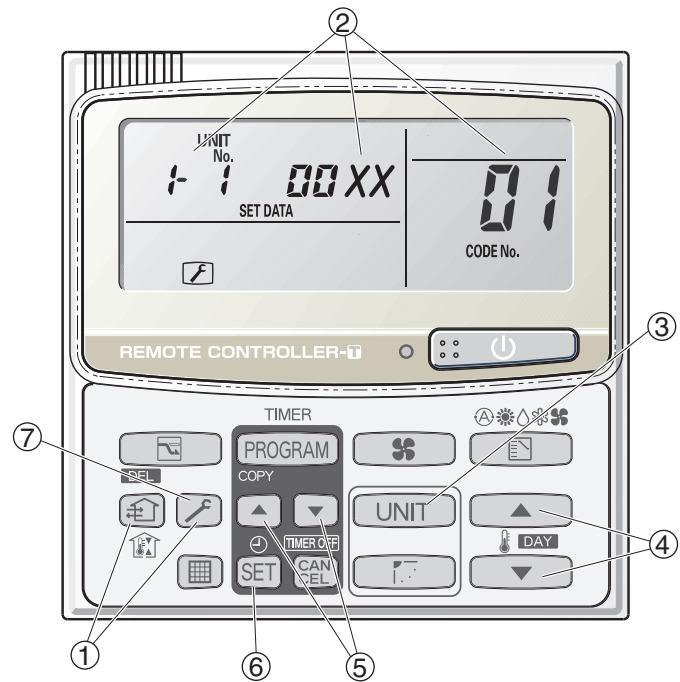

Fig. 1-1
- "SET DATA," unit No. "**1-1**" (or "**ALL**" in the case of group control), item code "**01**," and settings data "**00XX**" are displayed blinking on the remote controller LCD display (Fig. 1-1). At this time, the indoor unit fan (or all indoor unit fans in the case of group control) begins operating.